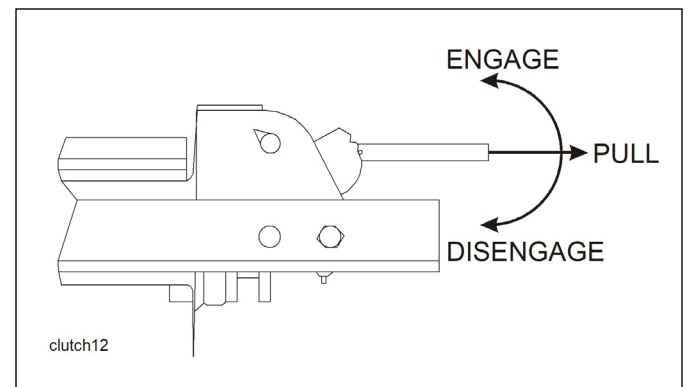

Figure 3-9: 12,000 Lb. Winch Clutch
1. The WINCH CLUTCH HANDLE (See Figures 3-9 and 3-10) is located on the right or curb-side end of the winch assembly.